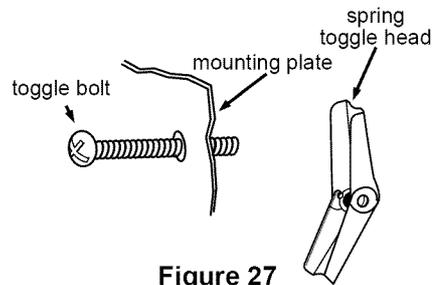

Figure 27
2. Prepare the toggle bolts by attaching a spring toggle head to the end of each toggle bolt as shown in Figure 27.